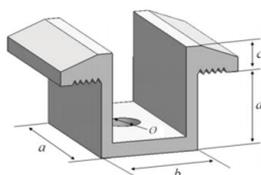
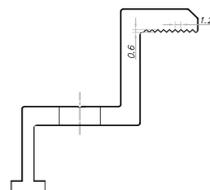

Figure 1
Figure 2 Schematic Diagram of
① Place the PV module on two racks (not provided). Which must be made of stainless steel or be treated with corrosion protection (e. g. hot-dip galvanized treatment). Each PV module needs at least 4 clamps to fix. During installation, please do not let the clamp directly contact the glass and deform the frame, otherwise it will result in PV module damaged.
② Be sure to avoid the shading effect of the PV module due to the shadow formed by the clamp. The drain hole shall not be covered by the clamp. The clamp must have an overlap of at least 10mm with the PV module frame (the section of the clamp can be changed on the premise of ensuring the reliable installation of the PV module).
③ The upper surface of the rack in contact with the PV module frame shall be provided with a groove matched with the M8 bolt.
④ If there is no groove on the rack, a hole of appropriate diameter shall be drilled at the position mentioned above for bolt fixing.
⑤ Make sure that the installation sequence of each clamp is flat washer, spring washer and nut.
⑥ Figure 1 shows the middle mounting clamp, and Figure 2 shows the edge mounting clamp and its cross section view. The size of the middle and side pressing blocks are $a \geq 50\text{mm}$, $b \geq 26\text{mm}$, $c \geq 5\text{mm}$, $d \geq 28\text{mm}$, $\varnothing = 9\text{mm}$ and the recommended wall thickness $\geq 4\text{mm}$. When the bolts and screws are of Grade 8.8, the recommended tightening torque is 17-23Nm. Consult the installer or rack supplier for specific torque values.
⑦ In order to prevent the module from falling off from the frame after installation, it is recommended to select the clamp with patterned groove structures for edge and intermediate clamp with contact surfaces with frame A. The recommended number of groove structures is about 9, the distance between adjacent grooves is recommended to be about 1.2mm, and the groove depth is recommended to be about 0.6mm, as shown in Figure 2.